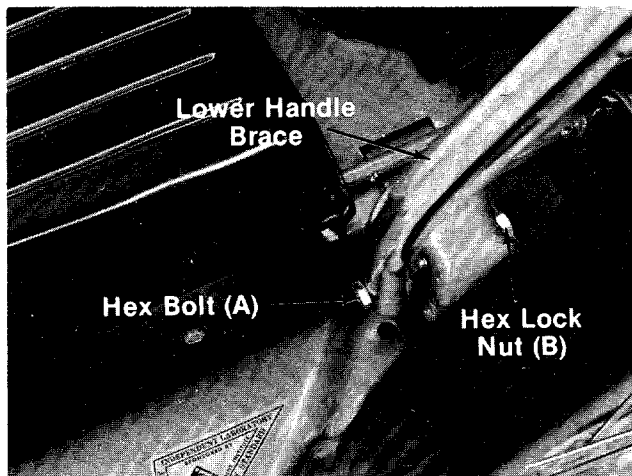

FIGURE 3.
- ← 2. Fasten bottom of left and right hand lower handle supports to frame using hex bolts (A) and hex lock nuts (B). See figure 3.